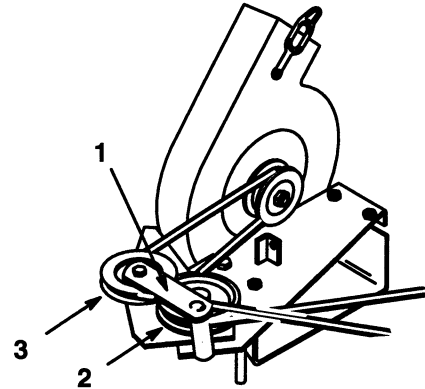

**Figure 32**
7. Remove the blower belt cover by removing (2) lock nuts and bolts (Fig. 32).